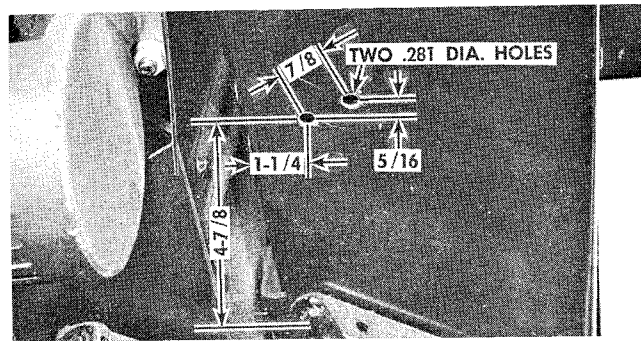

FIGURE 12
11. Layout and drill two .281 inch holes on the Left Hand side of the tractor cowl. See figure 12.